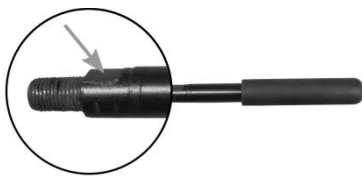

Figure 9: Spanner flats
Screw the tensioning lever (9) into the tensioning lever receptacle (8) of the quick release. Screw the thread all the way into the receptacle and tighten the tensioning lever extension with a spanner (the tensioning lever has a spanner flat with width across flats 17, see Fig. 9).